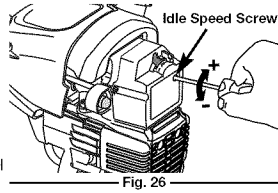

Fig. 26
The idle speed of the engine is adjustable through the air filter/muffler cover (Fig. 26).
2. Release the throttle trigger and let the engine idle. If the engine stops, insert a small phillips screwdriver into the hole in the air filter/muffler cover (Fig. 26). Turn the idle speed screw in, **clockwise**, 1/8 of a turn at a time (as needed) until the engine idles smoothly.